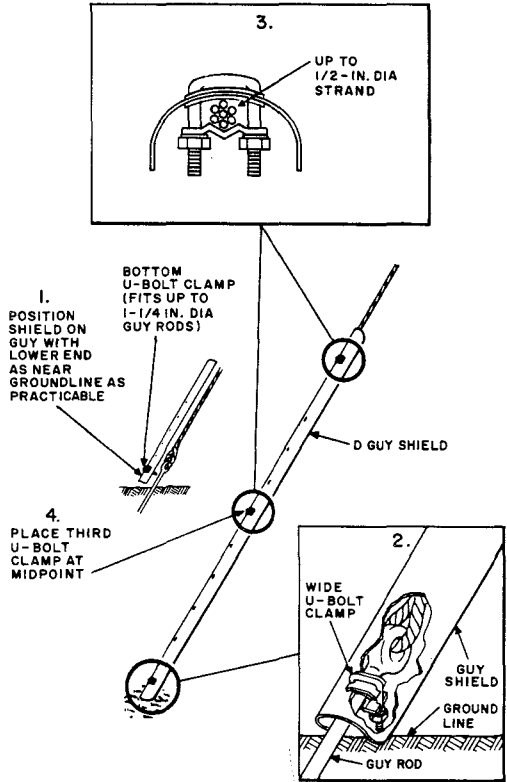

Fig. 35—Installation of Redesigned D Guy Shield
6.03 Install the redesigned D guy shield as shown in Fig. 35.